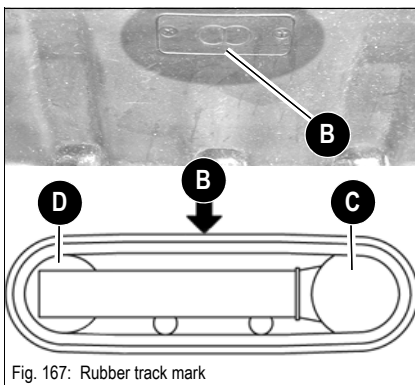

Fig. 167: Rubber track mark
- The rubber track has a mark **B** as shown in Fig. 167